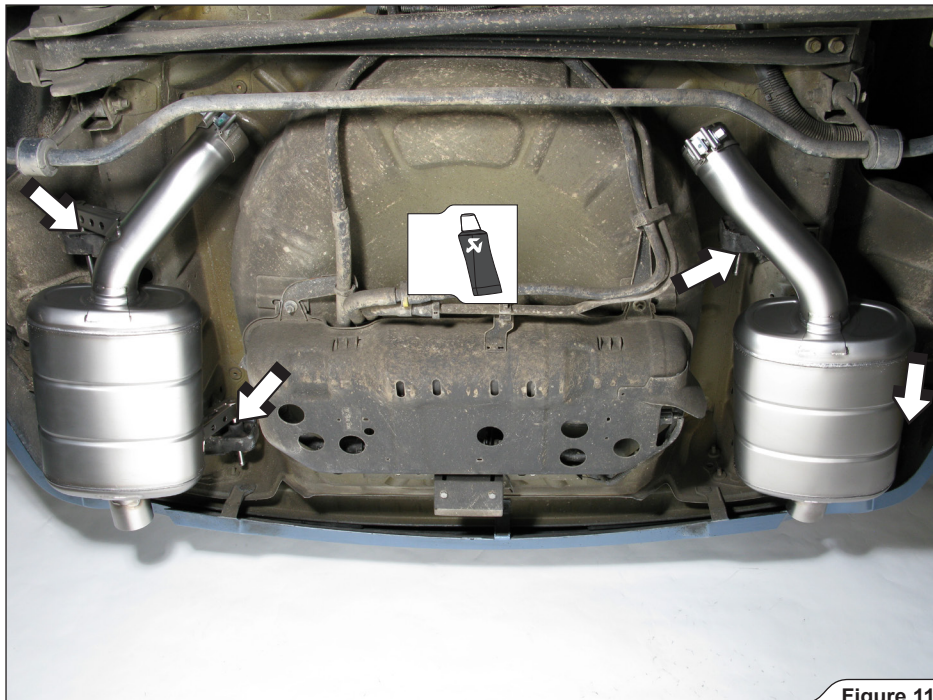

Figure 11
5. **For Slip-On and Evolution:** hang the mufflers onto the stock rubber dampers as shown (Figure 11).